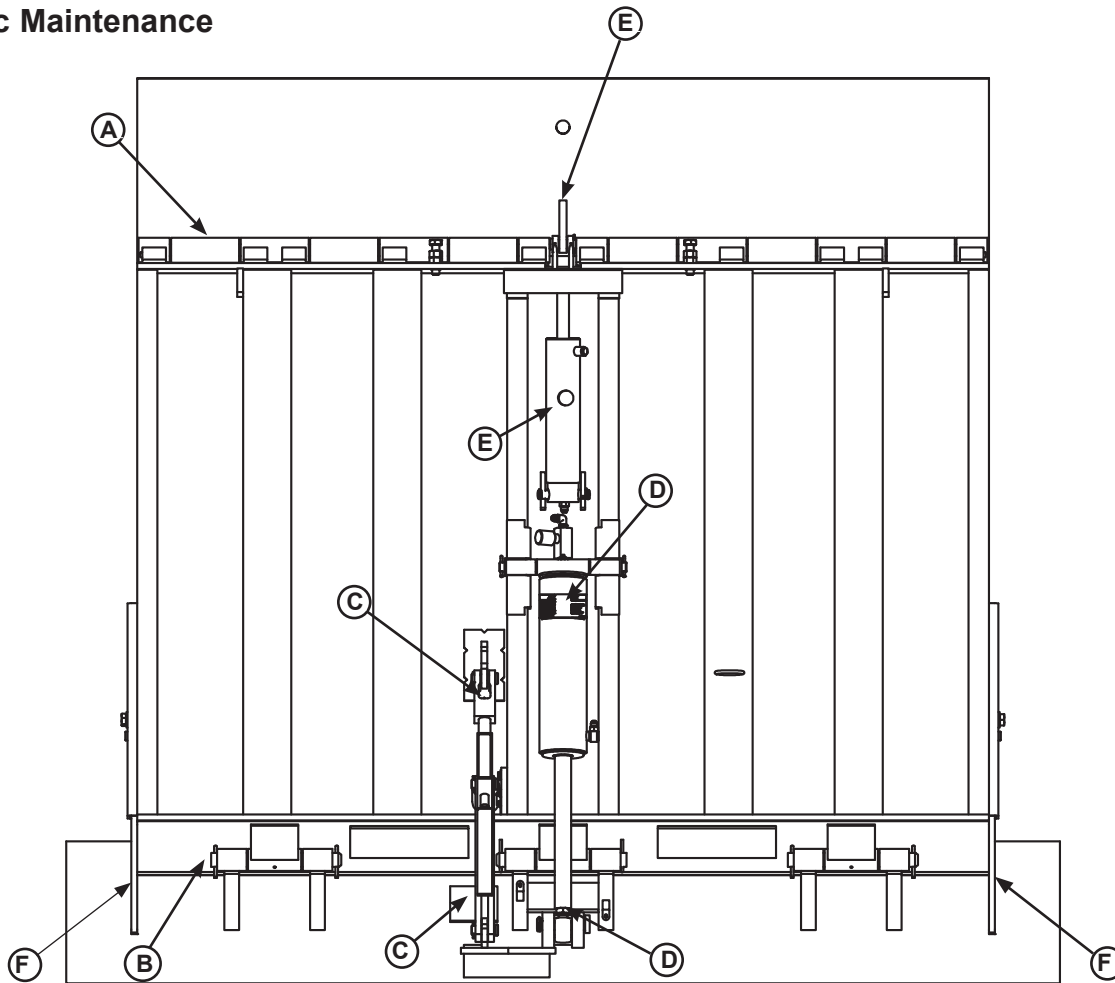

Figure 30
- » Lubricate the following areas with light weight machine oil, see **Figure 30**: